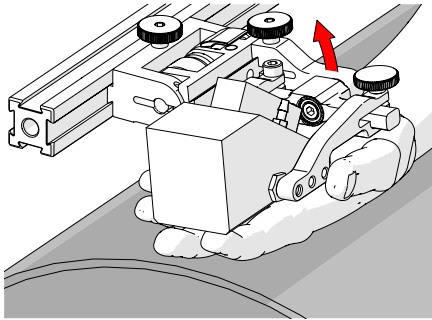

Fig. 83 - Lift to Latched position
1. Ensure the probe holder is in latched, upper position (Fig. 83). If the probe holder is already latched, it will only move within the slip joint adjustment range and have no spring tension.
1. Ensure the probe holder is in the upright latched position (Fig. 83).